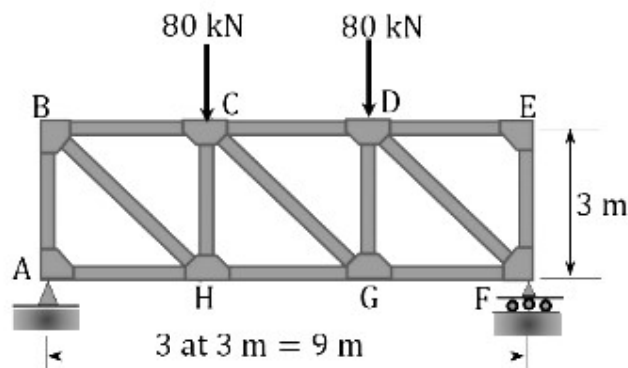

Figure: 4
- b) Using the method of section, determine the axial forces in members CDCD, CGCG, and HGHG of the truss shown in Figure 4 10 K3 CO6